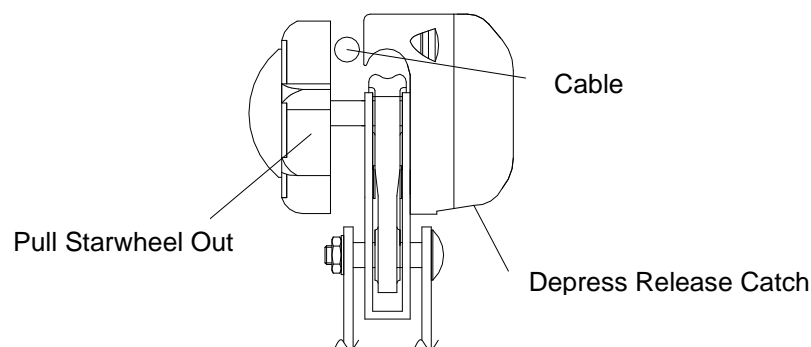

Fig 6.3.
- 6.3. Press the release catch with your right thumb. The release catch will not operate if the device is incorrectly oriented. Using your left hand pull the Starwheel away from the body of the device and offer the device up to the cable. Fig 6.3.